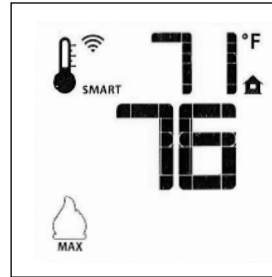

Figure 76. Smart Mode
- To activate this function, press the Thermostat Key until the word “SMART” appears to the right of the thermometer bulb icon. Fig. 76.